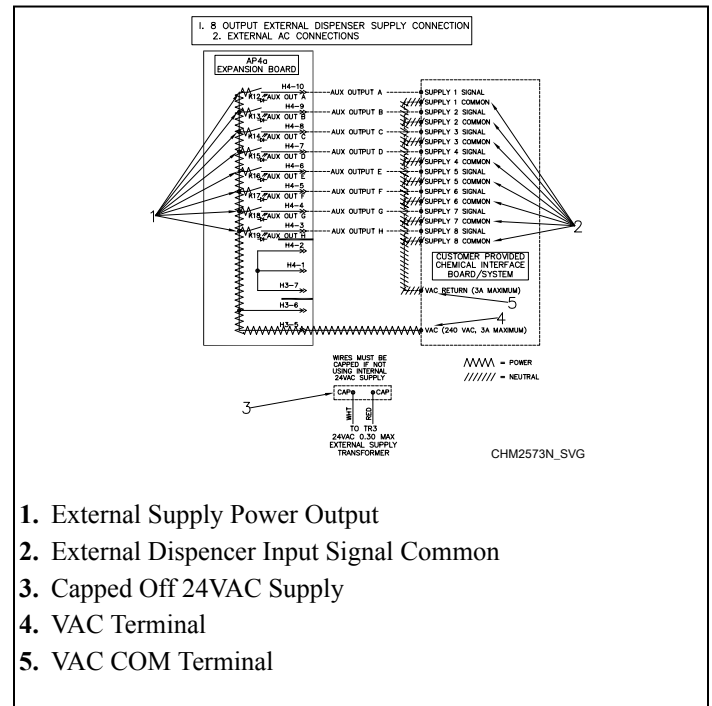
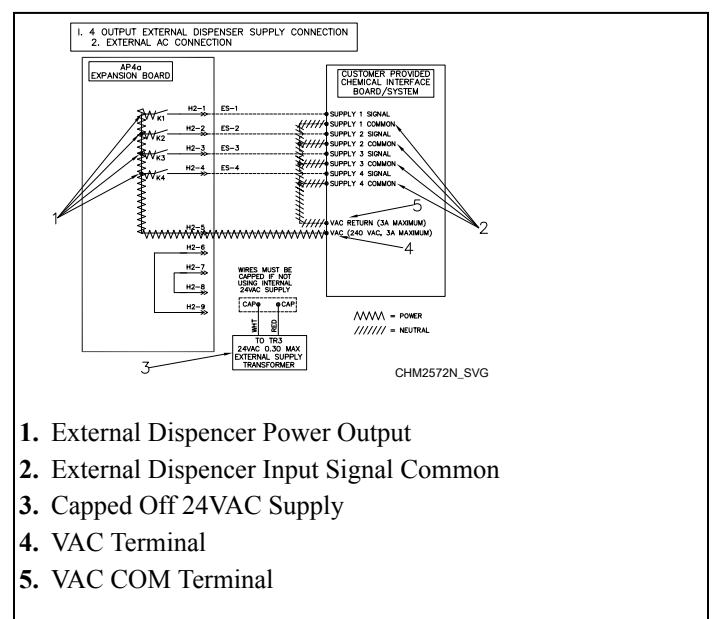

Figure 47
Figure 48
2. Connect one side of the external power to the “RELAY COM” and the other to the external dispenser input signals common. Refer to *Figure 47* and *Figure 48*.